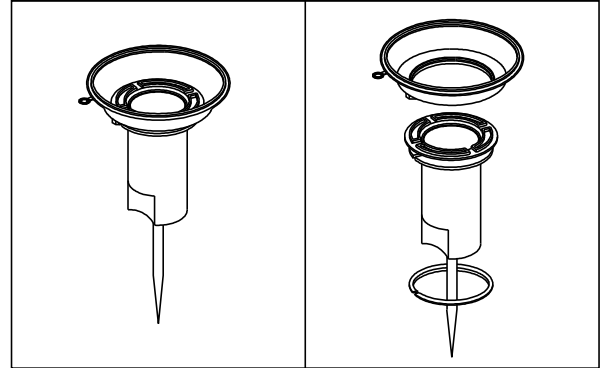

Fig. 4.26
- Remove ring piston valve and carefully remove diaphragm from the piston valve. (Fig. 4.26)